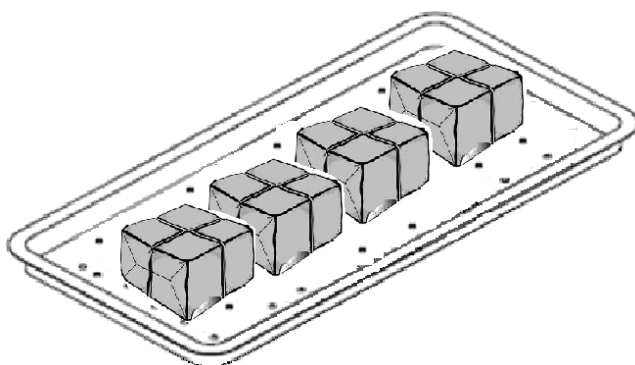

Figure 57
**Warning:** To sterilize absorbent cotton or woolen, please wrap it with a thin towel, covering cloth, linen, or sterilizing pouch to avoid piping clog according to Figure 57.